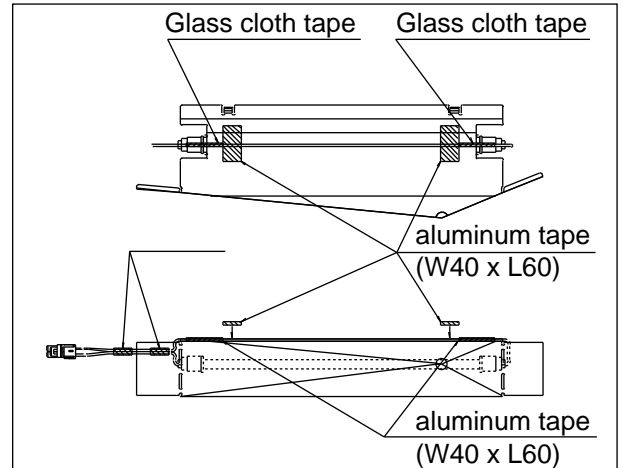

Fig. A-30
7. Stick the longer wire to the Drain support by aluminum tape (2 pieces), and wind vinyl tape (2 pieces) to lead wires of Def. heater ass'y by aluminum tape as shown in Fig. A-30.